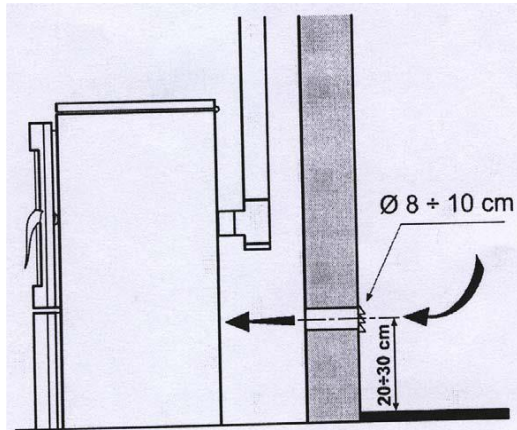

Figure 13: Minimum gaps for setting up ventilation grilles.
4.5. COMBUSTION AIR SUPPLY (Figure 13)